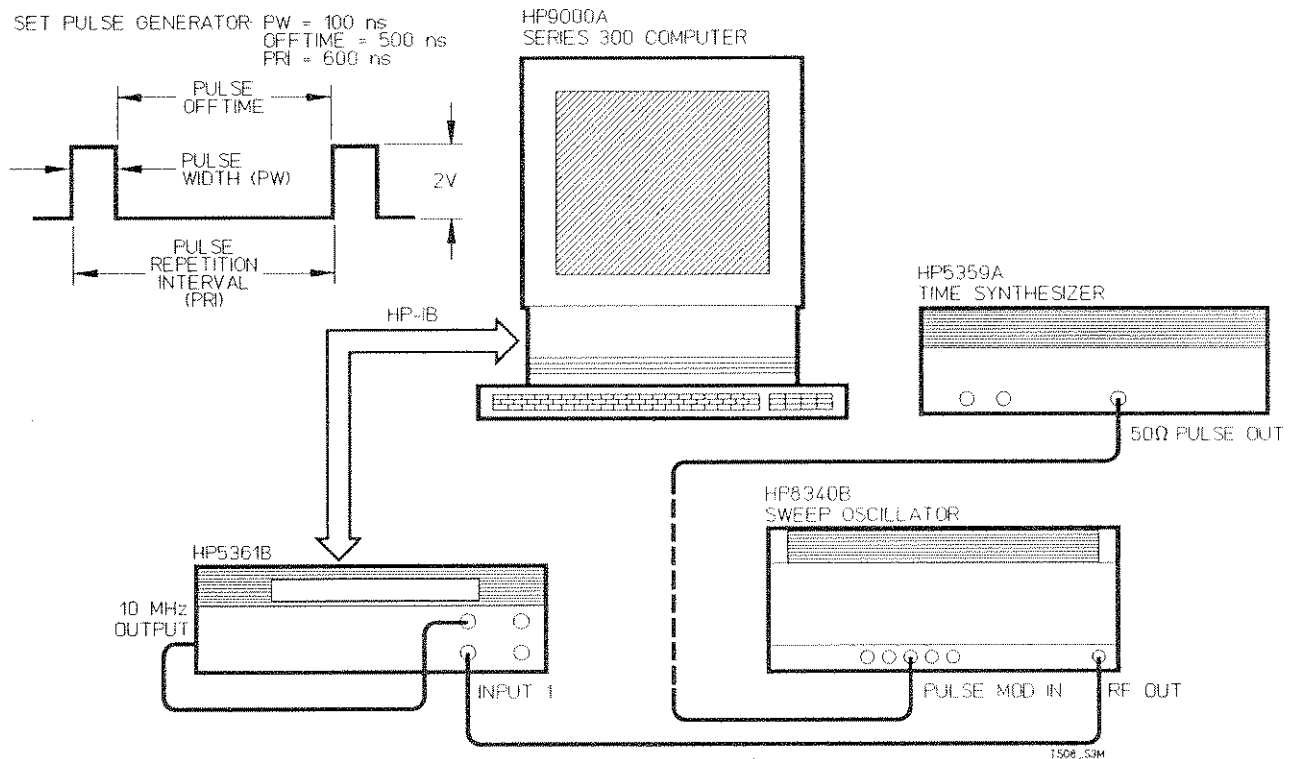

Figure C-5. Setup: HP-IB Verification, CW/Pulse
The program listed at the end of this appendix exercises the HP 5361B through various operating modes via the counter's HP-IB interface. If the counter successfully completes all phases of the verification program, there is a high probability that the HP-IB interface (A11 Assembly) is operating correctly. You'll need to pass all check points of the verification program. Refer to the *Figure C-5*.
To perform the verification, set up the HP 5361B, HP 9000 Series 200/300 Controller, and signal source as shown in *Figure C-5*. The program will function with any valid HP-IB address set for the counter. The first setup is for CW signal verification only and is used for program check points 12, 13, 14, and 15. The second setup is a minor variation of the CW setup that verifies pulse signal operation for program check point 16.
- c. Observe the pulse signal on the oscilloscope using a 50  $\Omega$  termination for final adjustment. The waveform should conform to the one defined in Figure C-5.